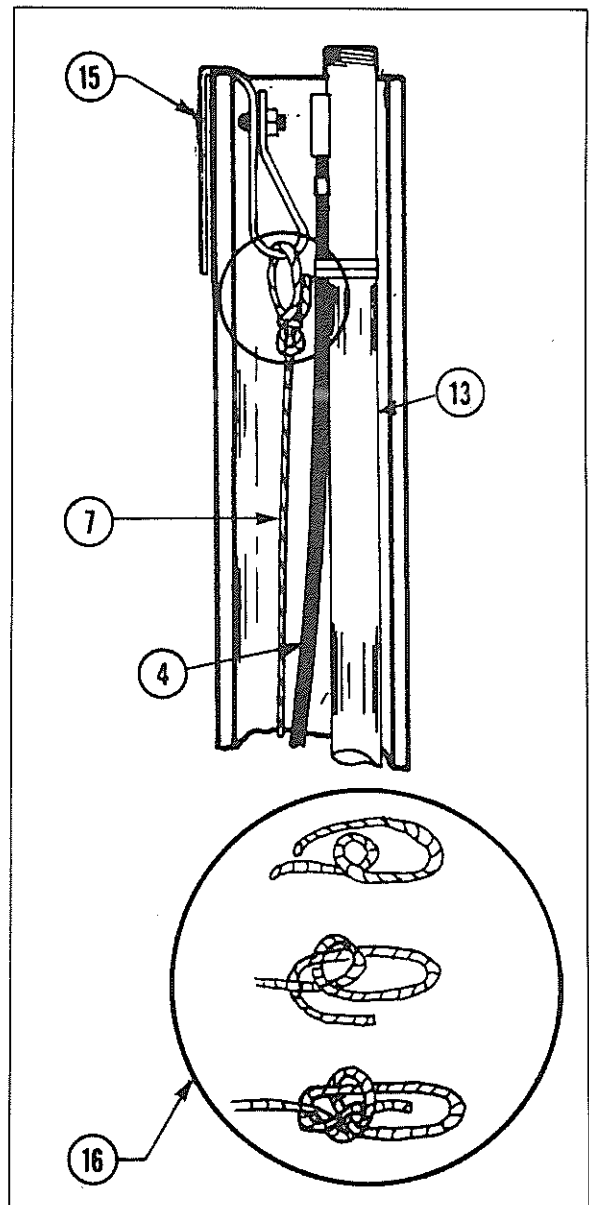

Figure 8
10. Connect the drop pipe, electrical cable and safety rope to the submersible pump. Tie the safety rope using a bowline knot (Figure 8). Lubricate the "O" ring on the drop pipe fitting neck (Figure 4) with clean petroleum jelly (vaseline). Lower all of the above into the casing. The Tee handle and notch in the top of the casing are used to line up the drop pipe fitting neck (Figure 4) with the saddle fitting. The Tee handle will also prevent the pump from falling into the well. When the Tee handle comes within 50mm (2 in) from the top of the casing, the drop pipe fitting will align with the saddle fitting. The spring loaded actuator in the drop pipe fitting will then snap the neck into the saddle fitting, sealing the connection and locking the two together.
11. The nylon safety rope, minimum size 8mm (5/16 in), may be attached by fabricating a hook from a piece of 3mm x 25mm x 350mm (1/8 in x 1 in x 14 in) flat iron (Item 15, Figure 8).
12. Tape the release cable to the 25mm (1 in) galvanized pipe (Figure 8).